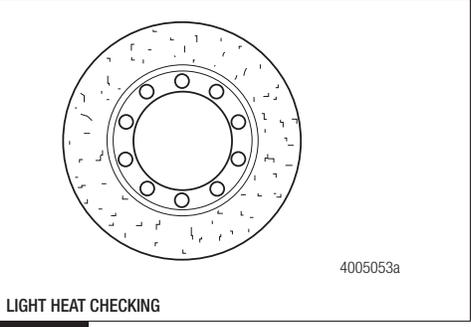
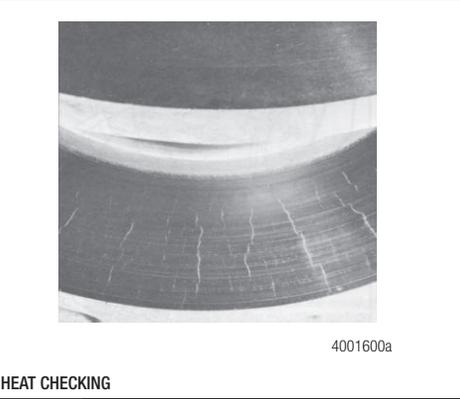

Figure 12
Figure 11
- Light Heat Checking** — Cracks on the surface of the rotor that result from light heat checking are small and fine and do not require rotor replacement. Figure 11 and Figure 12.